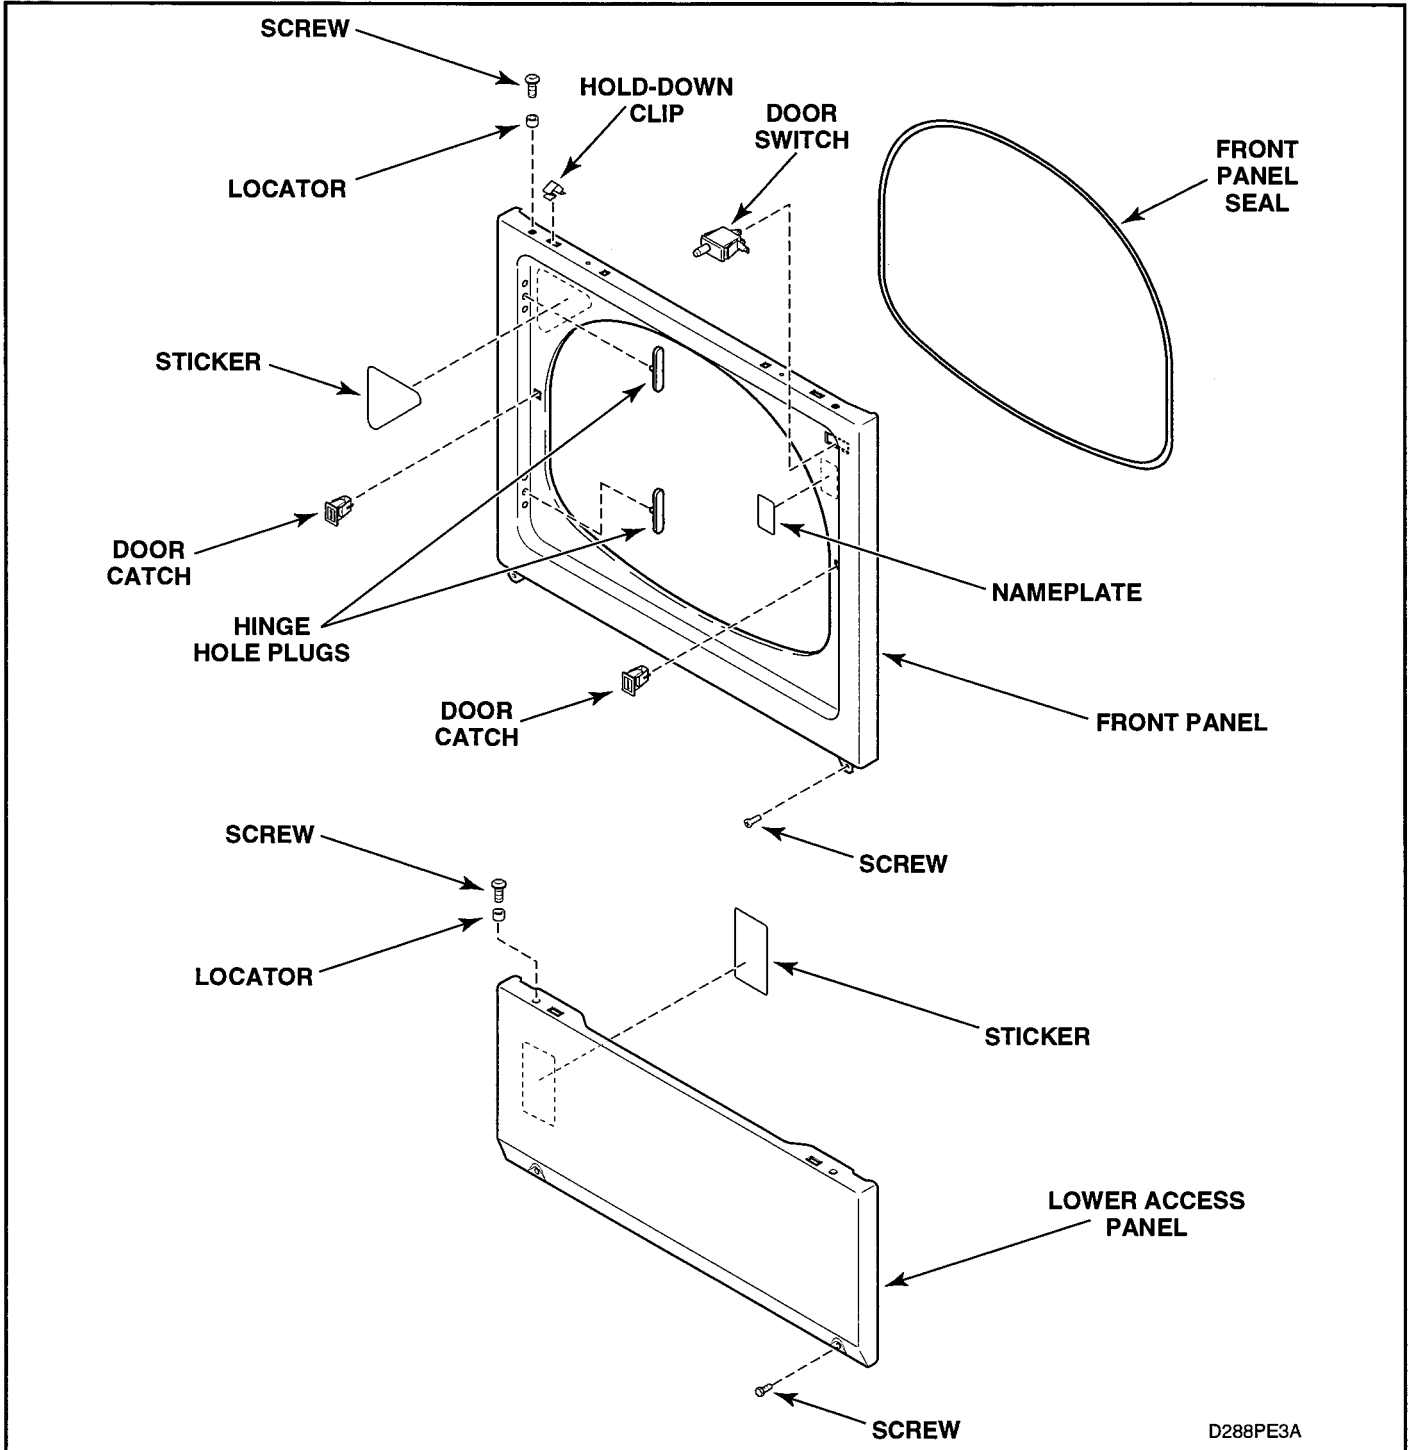

Figure 5-9
16. FRONT PANEL AND PANEL SEAL (Figure 5-9)
17. DOOR SWITCH (Figure 5-9)
18. DOOR CATCH (Figure 5-9)
20. HOLD-DOWN CLIPS AND LOCATORS (Figure 5-9)
1. While supporting the lower access panel, remove two screws from bottom edge of lower access panel. See figure 5-9.
- While supporting the lower access panel, remove two screws from bottom edge of lower access panel. See figure 5-9.